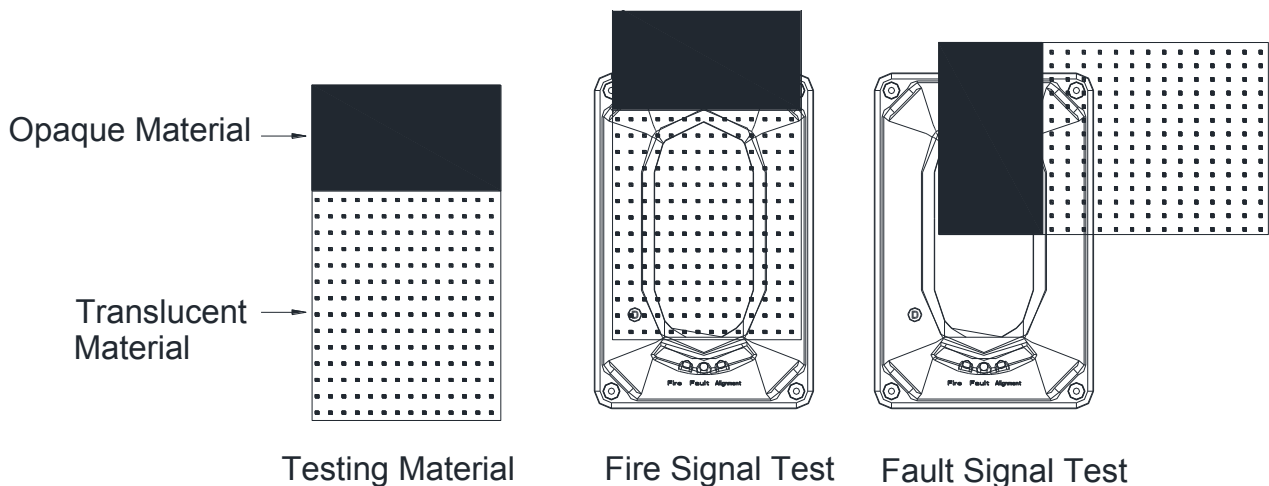

Figure 11: Testing Details
- Using supplied Opaque/Translucent materials, block the half of the beam detector with the translucent portion of the material. With less than 30 seconds the Red LED [Fire] will turn on steady, indicating Fire signal. [The fire alarm relay [HJ1 and HJ2 will latch to normally close]. Refer to Figure 11.
- Using supplied Opaque/Translucent materials, block the half of the beam using the opaque portion of the material. Right after the Yellow LED [Fault] turns on, indicating the fault signal. [The fault alarm relay GZ1 and GZ2] will latch to normally close]. Refer to Figure 11.